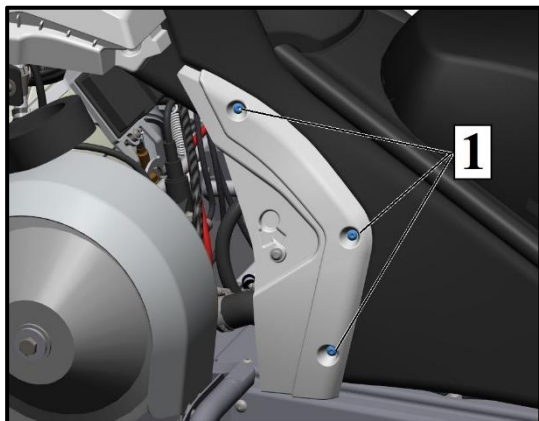

Fig.11
3. Unscrew 3 screws (pos. 1, Fig. 11) of the left plastic lining of the fuel tank.